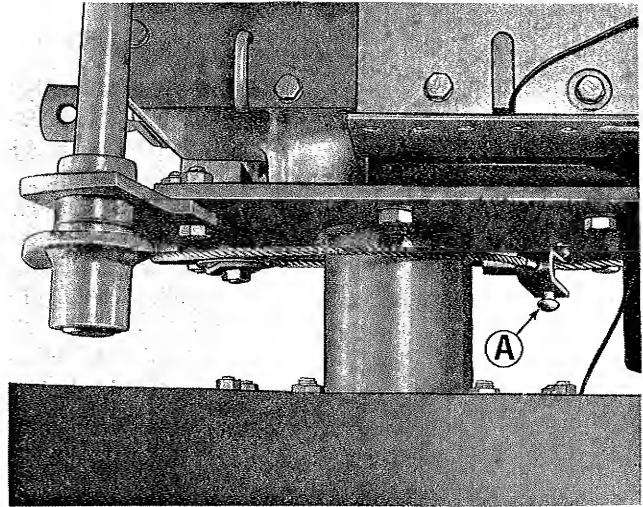

Figure 3. The right lift cable fastened in its storage position.
3. See figure 3. The right lift cable is shown as it should be stored, when not in use. See your Simplicity dealer for in-